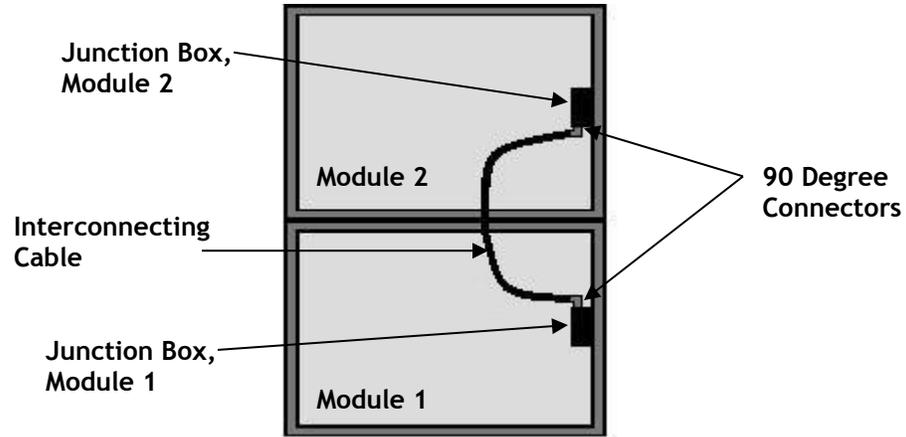

Figure 13: Module Junction Box Connection
Figure 13 illustrates the proper orientation and wiring configuration for connecting the junction boxes of multiple modules.
- 4 Attach the 90 degree connectors as shown in Figure 13.
- 2** Terminate the 30" interconnect cable as shown in Figure 13.